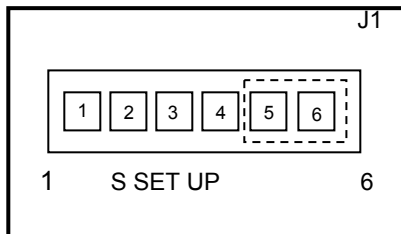

Figure 9
9. Position the jumper on pins **5** and **6** of the **J1 (S SET UP)** header. (Refer to *Figure 9*).